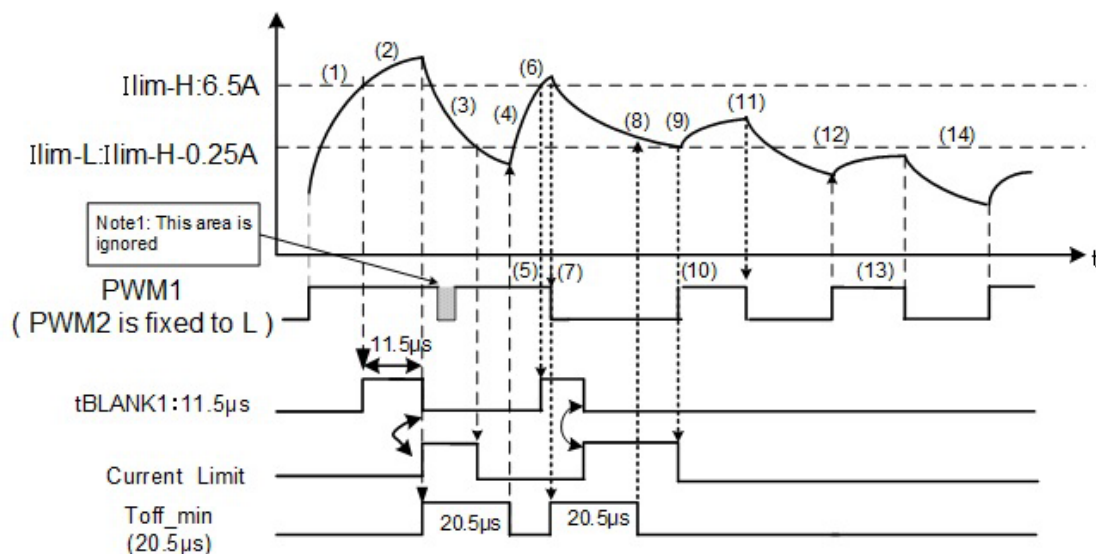

Figure 7.14 Chopper-type current-limit control
7.7.1. Chopper-type current-limit control (basic operation) (Figure 7.14)
7.7.2. PWM signal input during forward rotation (Case 1) (Figure 7.14)
7.7.3. PWM signal input during forward rotation (Case 2) (Figure 7.14)
- (11) At the falling edge of PWM1, short-brake mode begins.
- (12) When PWM1 = H, normal mode resumes.
- (13) Since PWM1 is still H, the motor drive current increases.
- (14) When PWM1 = L, the operation becomes short-brake mode, and the motor drive current decreases.